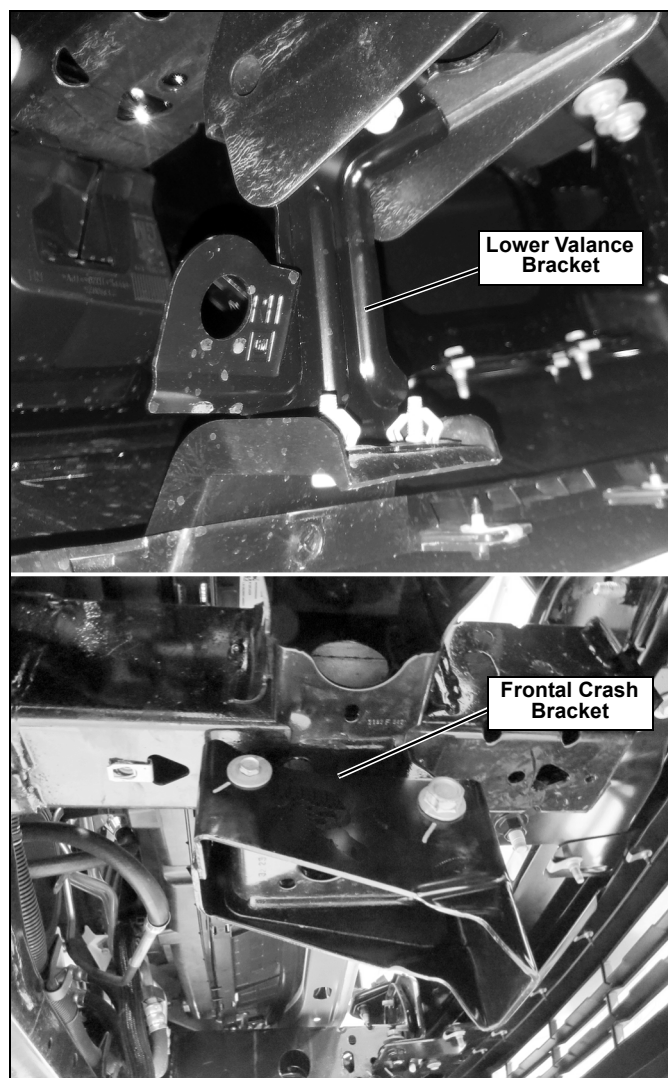

Figure 1
2. Remove the Lower Valance Brackets and Frontal Crash Brackets (If Equipped). Retain the parts and hardware for use if vehicle mount kit is ever removed. (See Figure 1.)